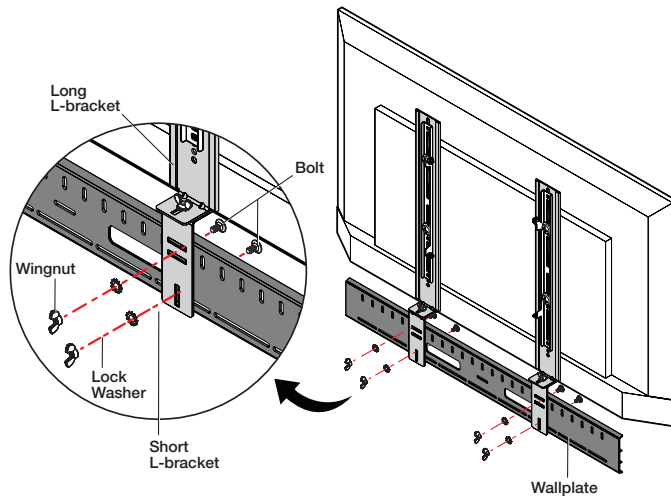

Figure 4. Installing the SB 33 speaker wall plate
6. Install the SB 33 speaker wall plate to the short L-bracket using two bolts, two lock washers, and two wingnuts as shown in figure 4.